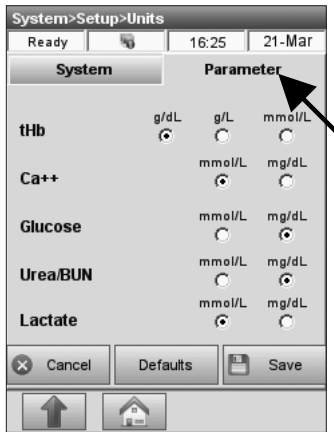

Fig. 3-78 Parameters
5. Press the **<Parameter>** tab to go to the next screen (Fig. 3-78), and select the units for the remaining parameters.